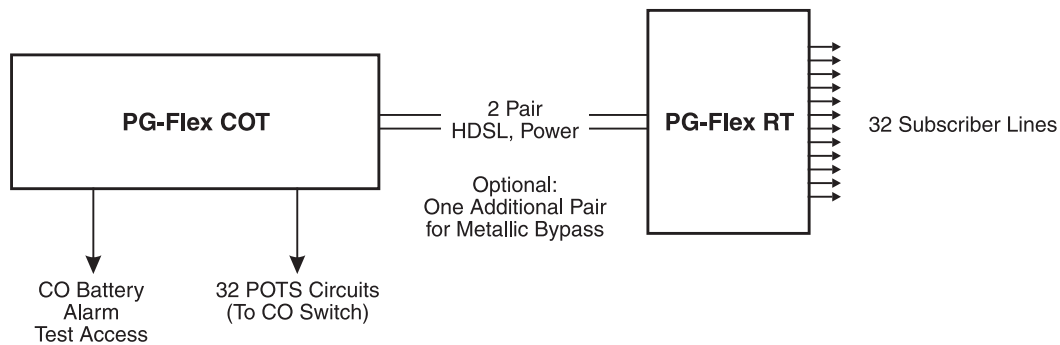

Figure 2. Typical PG-Flex Configuration
4.2 System Flex Configuration. Figure 2 shows a typical PG-Flex system that consists of:
- 4.5** For the system configuration depicted in Figure 2, the maximum distance between the COT and the RT is 10.7 kft (3.3 km), assuming the HDSL lines are 24 gauge (0.5 mm). Table 2 shows the maximum distance between the COT and RT for various gauge wire. Due to the nature of HDSL transmission technology, the HDSL lines do not require any special conditioning and may include unterminated bridge taps, but cannot include load coils.